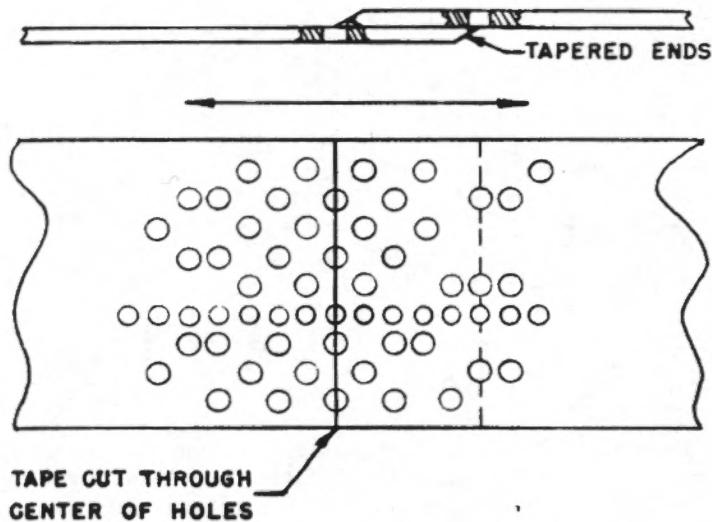

Figure 18. Bi-directional Tape Splice
- The tape should be cut straight across through the center of the sprocket hole as shown in Figure 18. This permits the star wheel to slide into the perforation properly, or if no perforation exists, the star wheel will roll over the splice and yet be in position to read a character on the next step. Allow approximately 1/2 inch for splice overlap.